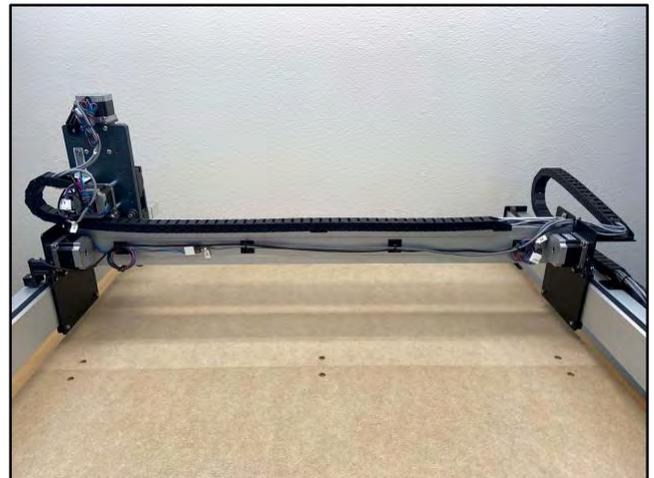

Figure 39
1. Tidy up the cables along the rear of the X-rail. See *Fig. 39*.